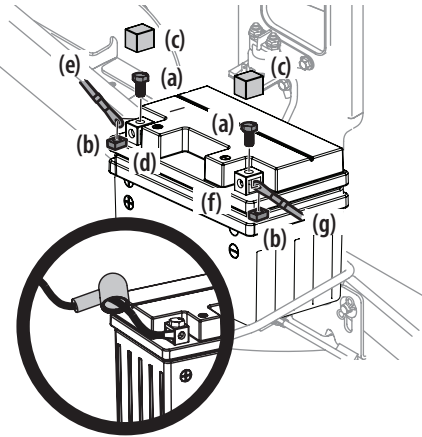

Figure 17
1. Remove the factory installed hex screws (a) and square nuts (b) located either on the end of the wiring harness or in the bag with this manual. Retain the hardware for later instructions. See Figure 17.
2. Remove the plastic cover (c), if present, from the positive battery terminal (d) and attach the red cable (e) to the positive battery terminal (d) with one of the hex screws (a) and square nuts (b), from Step 1. Use a Philips screw driver. See Figure 17.
3. Remove the plastic cover (c), if present, from the negative battery terminal (f) and attach the black cable (g) to the negative battery terminal (f) with the remaining hex screw (a) and square nut (b). See Figure 17.
4. Position the red rubber boot over the positive battery terminal (d) to help protect it from corrosion. See inset in Figure 17.